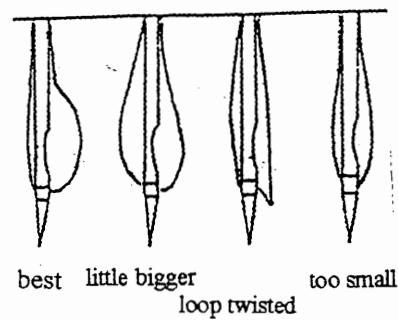

Fig. 14
To adjust the height of upper thread (5): When the needle bar is at its lowest position, the thread should be straight, but not too tight. The loop should be stable and prevent stitch skipping from being twisted when the needle bar moves upward. If thread twist is so strong that the loop runs away frequently. Adjust carefully to reach the above requirement, as shown in Fig. 14.
面板穿线(5)的高度调节: 要求针杆到最低点时, 缝线全部拉直, 但又不很紧, 使针杆回升时线环稳定, 防止扭曲而引起跳针。如发现线的捻度大, 线环经常逃跑, 则必须细心调到上述要求, 形成最佳线环, 如图 14 所示。